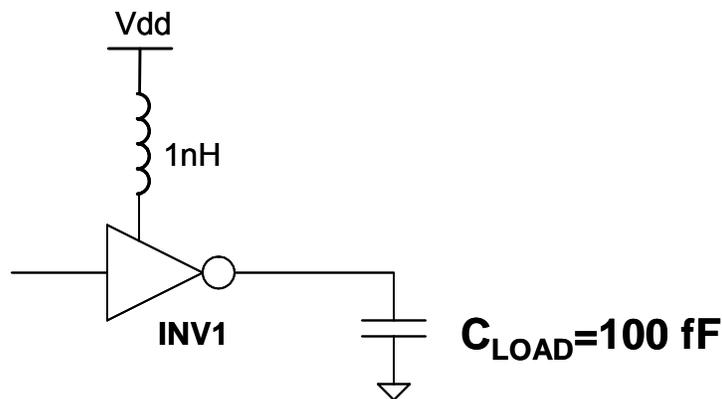

Figure 2.2
- c) This complex gate must be sized to match the worst-case output resistance of the inverter below (INV1 in Figure 2.2). INV1 has a design constraint that the power supply noise must be less than 1% of  $V_{dd}$  while  $t_{plh}$  is minimized. Let  $\beta = 2$  in INV1 and only consider power supply noise on  $V_{dd}$ . The inductance associated with the power network is 1 nH.  $C_{Load}$  in Figure 2.2 represents all relevant capacitances – do not calculate any capacitances in this problem.